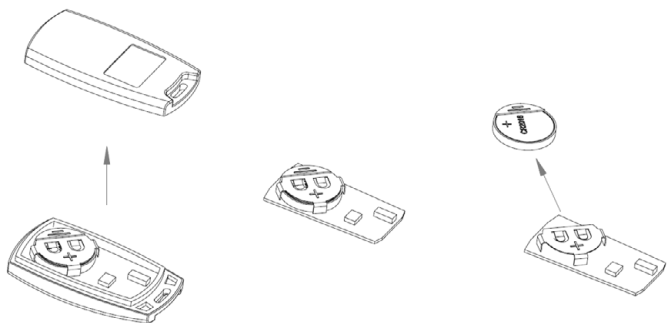

Fig. 4
- Remove the old batteries and insert two new CR2016 batteries (see Fig. 4)